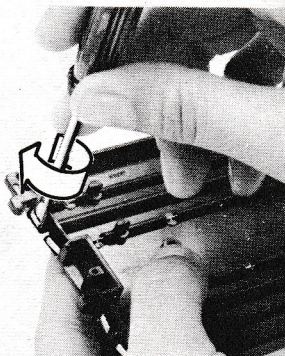

FIGURE 3
3. Power rails making proper contact. Metal tabs on power rails must touch each other at track joints. Tension may be adjusted by prying tabs with small screwdriver (fig. 3).